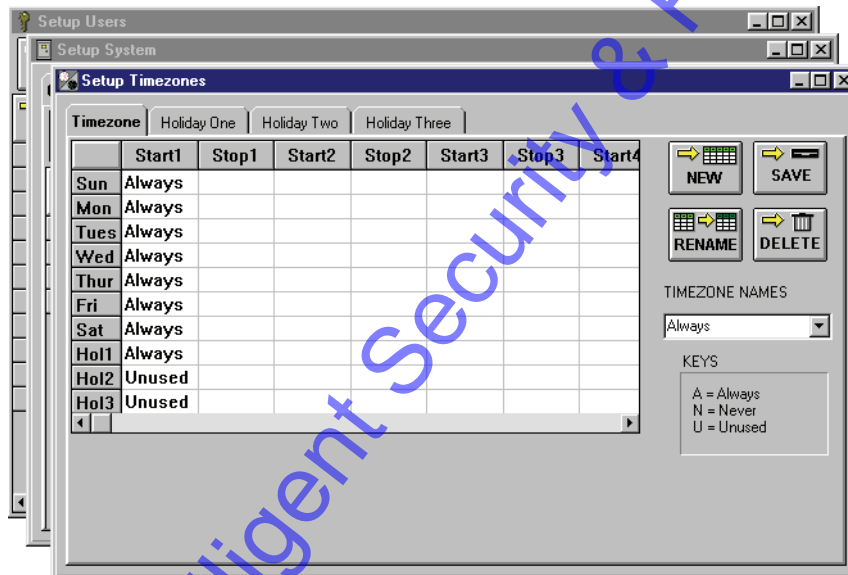

Figure 1-17: Cascading Database Windows
1. To cascade all open windows, click on the Window ⇒ Cascade pull-down menu option. The individual open database windows will be organized in the *Doors* window as shown in Figure 1-17.